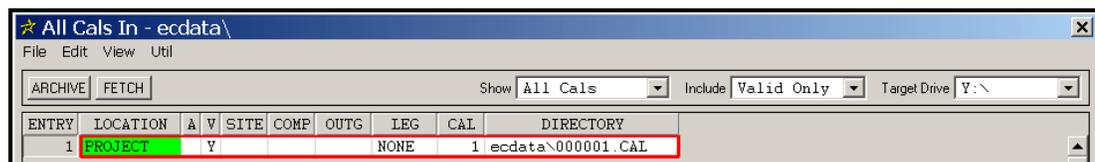

Figure 11-1. Cal Admin Dialog - Archiving/Copying a Cal Group
- STEP 7:** In the *Target Drive* list box, select *x:*, where *x* is the letter of the device that contains the transfer media on your computer, i.e., ZIP, JAZ, etc. The *Cal Admin* dialog should appear similar to Figure 11-1. The *Target Drive* selected in this example is *y:*.